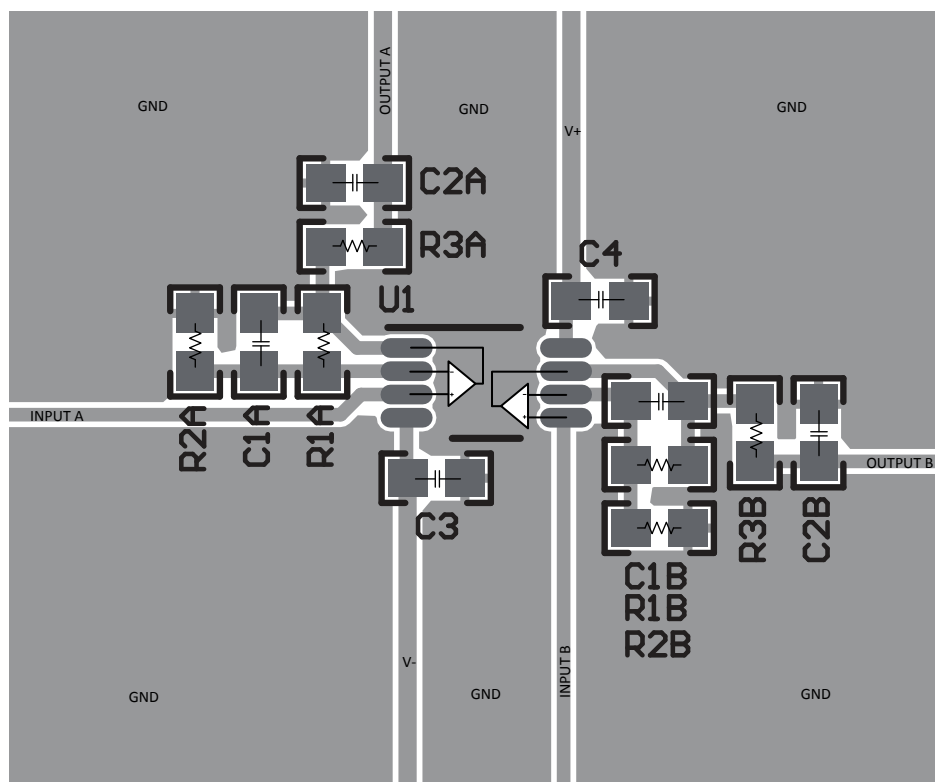

図 7-4. Example Layout for TLV9142
- Place the external components as close to the device as possible. As shown in Figure 7-4, keeping RF and RG close to the inverting input minimizes parasitic capacitance.